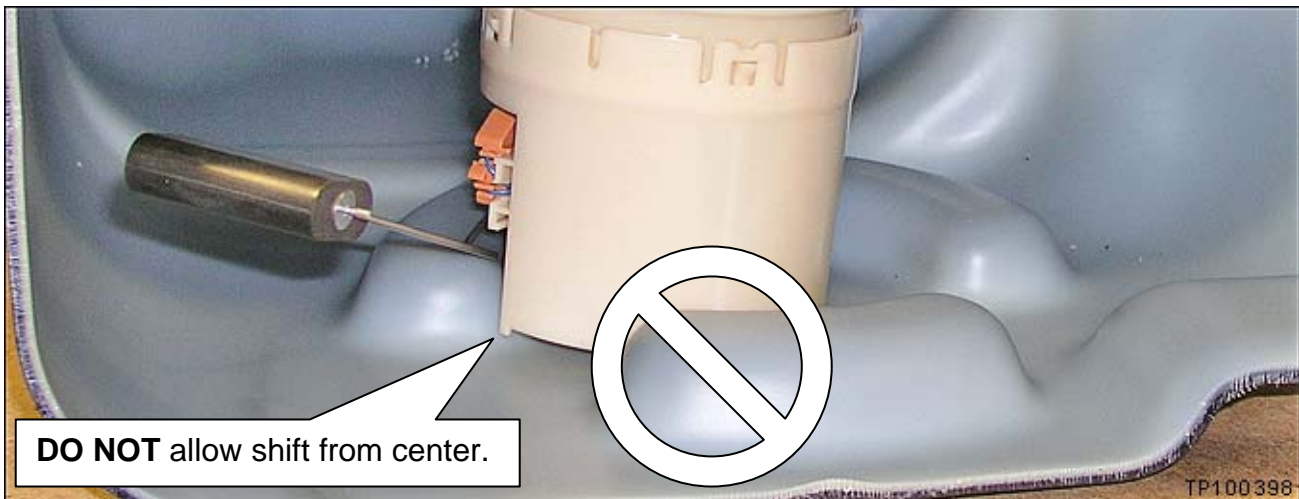

Figure 6
- **DO NOT** allow the fuel pump assembly to shift from center as shown in Figure 6.